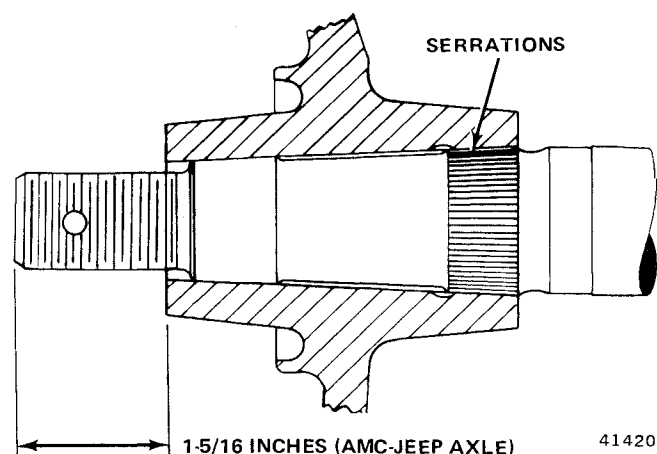

Fig. 2F-19 Replacement Hub Installation Measurement
- (1) Align keyway in hub with axle shaft key.
- (2) Lubricate two thrust washers with liberal amount of chassis grease and install washers on axle shaft.
- (3) Install axle shaft nut.
- (4) Install drum, drum retaining screws, and road wheel.
- (5) Lower vehicle onto wheels. Tighten axle shaft nut until distance from hub outer face to axle shaft outer end is 1-5/16 inches (fig. 2F-19).